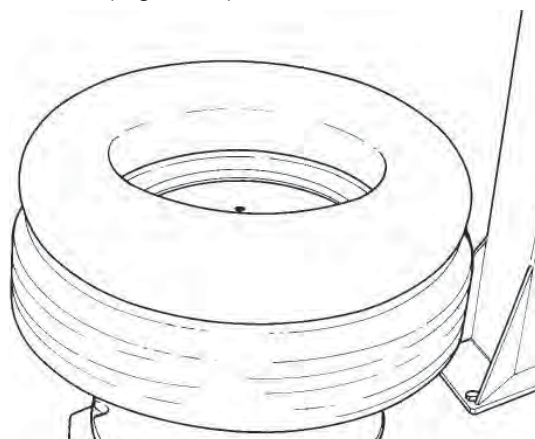

Fig. 5.1-1
**B.** Confirm that the tube is the correct size for the tire to be mounted. (Fig. 5.1-1).